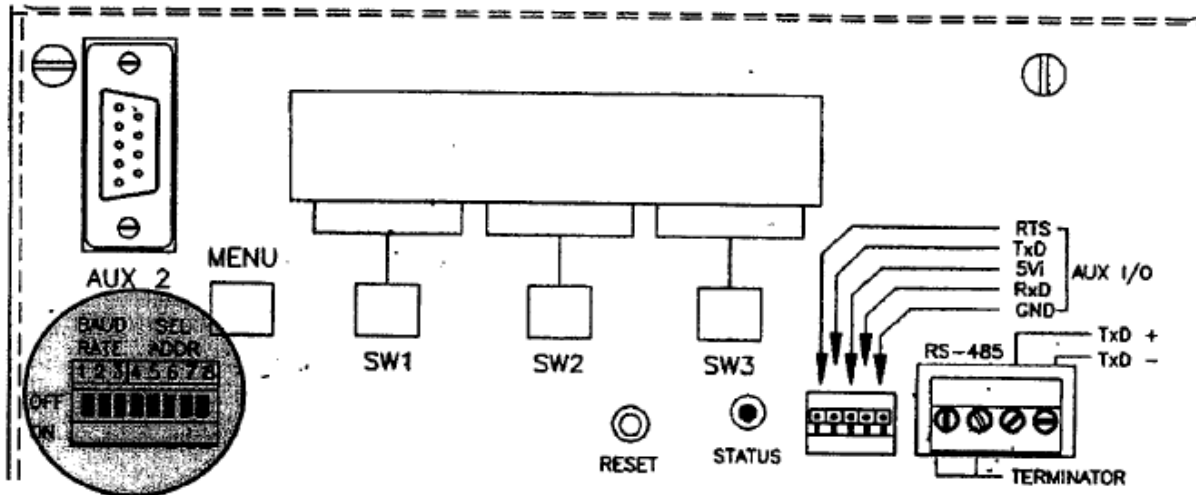

Figure 7-1. Serial Communication Parameter Selection Switch.
The FSk-40 is equipped with a variety of serial output formats that are selected using a series of DIP switches (Figure 7-1). DIP switch positions 1, 2, and 3 (Table 7-1) allow four format choices; Digi-System Network, continuous output, terminal/computer interface, and MODBUS RTU. All types of FSk interfacing will be discussed in the following paragraphs. Positions 4-7 designate transmitter address for applications requiring more than one FSk unit (Table 7-2). Switch position 8 is unused and should be left in the '0' (ON) position.